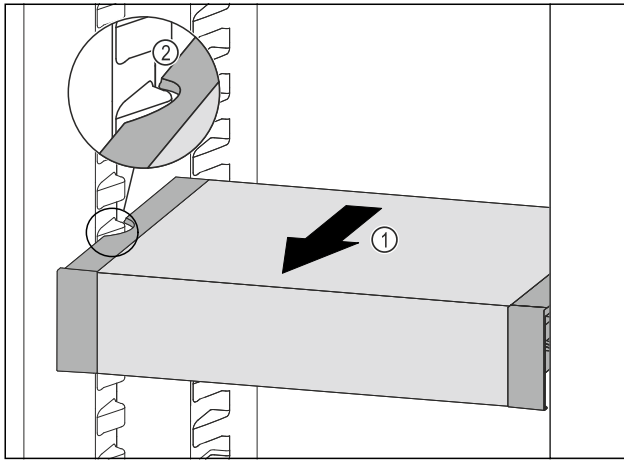

Fig. 62
- Pull VarioSafe forwards Fig. 62 (1) until the recesses in the side of the VarioSafe are at the level of the support rib in the refrigerator compartment. Fig. 62 (2)